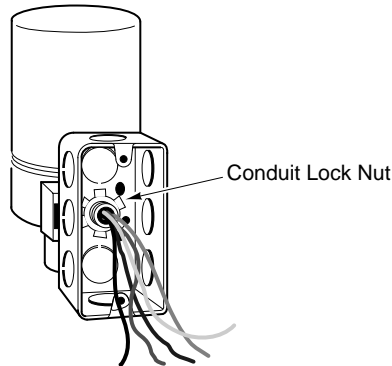

Figure-11 Attachment of Conduit Box to Threaded Adaptor.
5. Loosely install the conduit box and the locknut onto the conduit bushing. Refer to Figure-11.